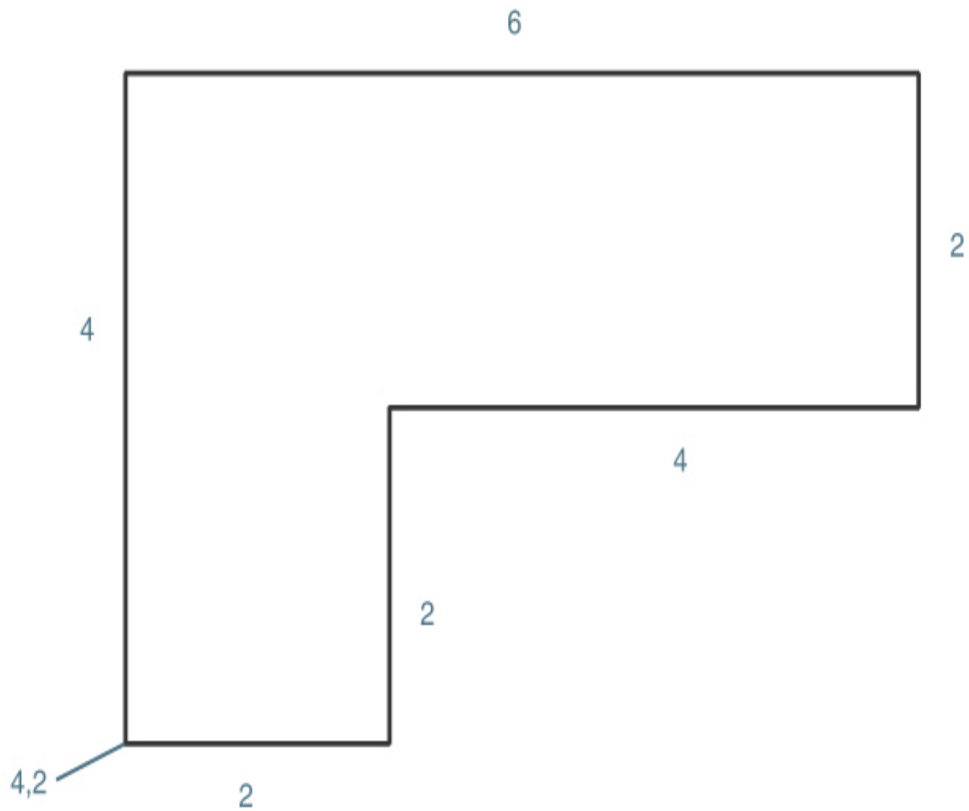

Figure 2-14
- 5** Move your cursor to the coordinate 4,2 and pick that point. Continue picking points in a counterclockwise direction to draw the outline shown in Figure 2-14.